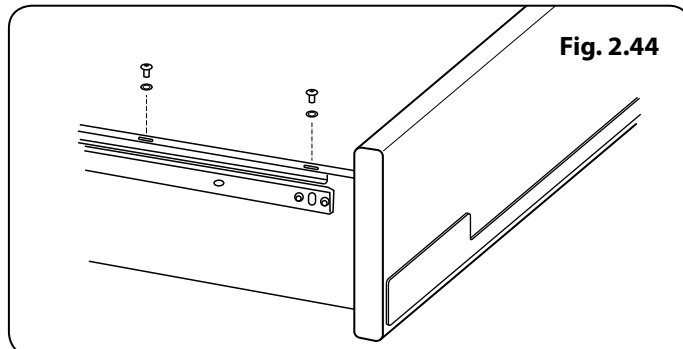

Fig. 2.44
3. Unscrew the two fasteners and remove the screw washers from either side of the Storage Drawer runner brackets (**Fig. 2.44**).
2. Align the two holes on either side of the Storage Drawer with the runner brackets (**Fig. 2.44**).